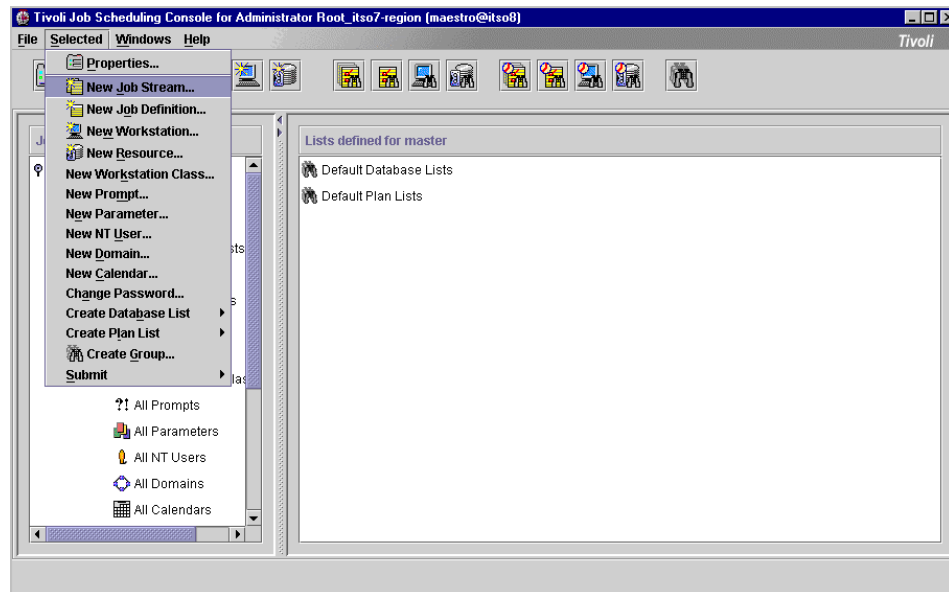

Figure 114. Defining a Job Stream
2. From the Selected menu, click the **New Job Stream...** as shown in Figure 114 on page 190.